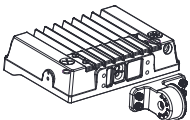

Fig 3.1
Step 2: Pass the rubber wire through the mounting head of the bracket and secure it with an inner hexagon screw. (Watch out not to scratch the wire). Figure 3.1